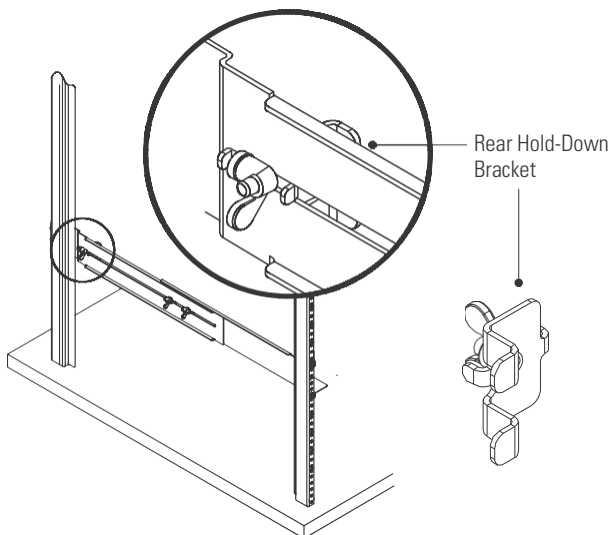

Figure 38. Securing the Back of the EBM
12. Attach the rear hold-down brackets to the rail and slide the brackets into the slots on the EBM rear panel (see Figure 38).